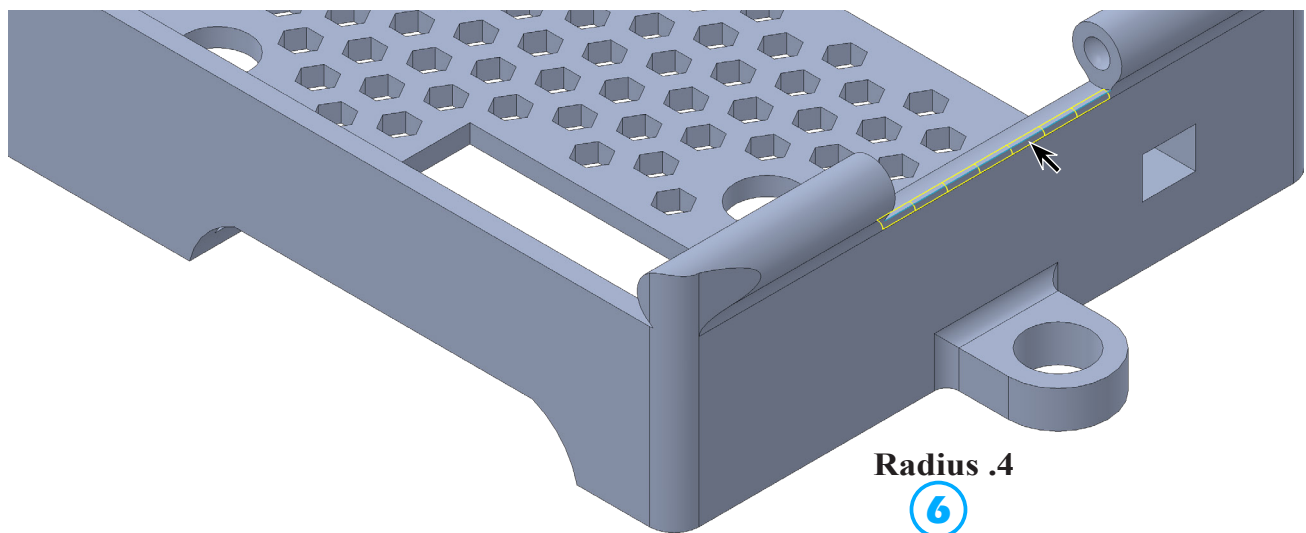

Fig. 122
- ⑥ **Radius**  **.4**
click **edge between hinges (1)**, Fig. 122